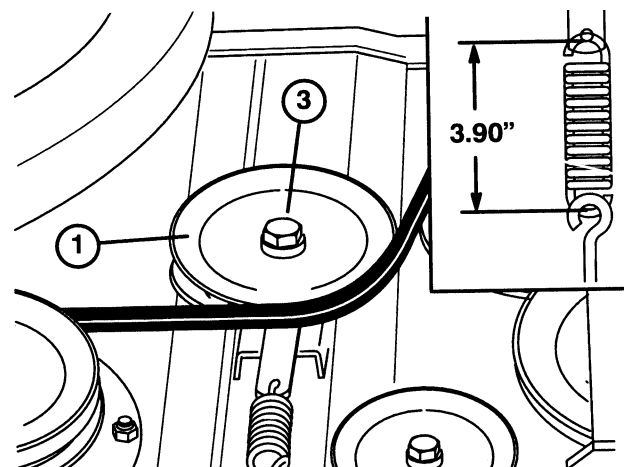

Figure 14
## REPLACING DRIVE BELTS (Fig. 14–15)
6. Tighten the spring tensioning nut until the spring length is 9.9 cm inside the spring loops (Fig. 14).